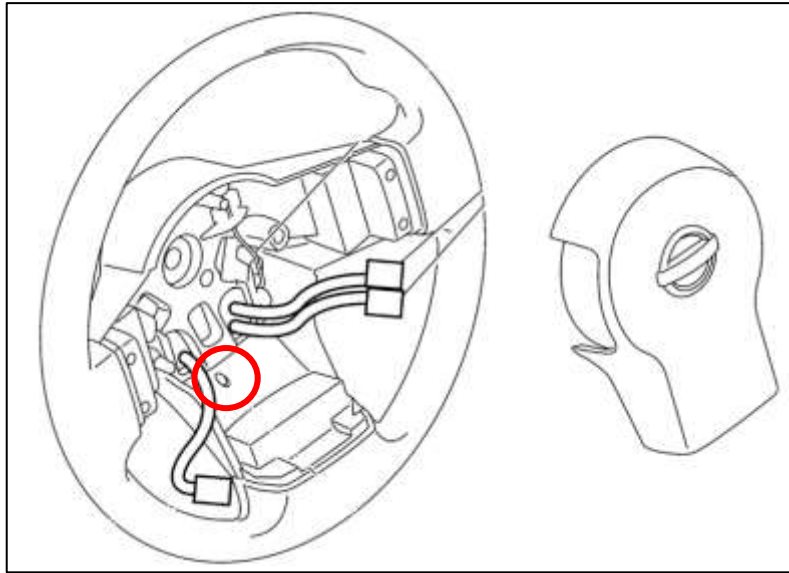

Figure 1
- a. Locate the Retaining Clip Access Hole on the backside of the Steering Wheel. *Figure 1.*